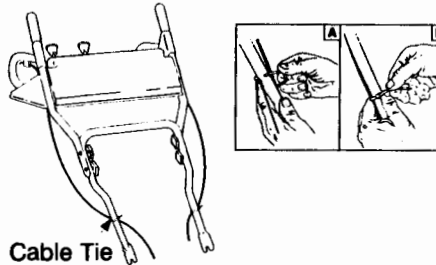

FIGURE 18
- When securing the trigger cables, route the cables to the **outside of the handles**. Secure with cables ties. Trim excess ends of cable ties. See Figure 18.